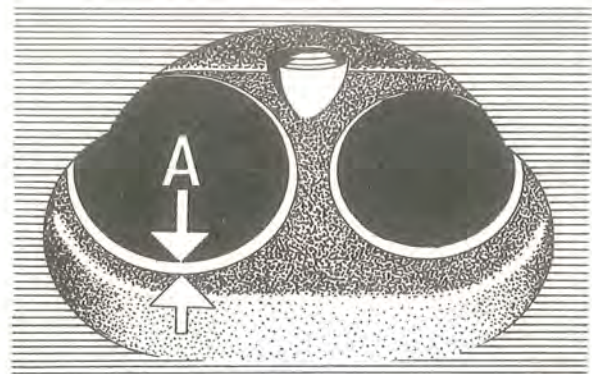

Fig. 2-20. Valve seat width $A=2$ mm (.08")
2. Grind the valve seats. Use an electrically driven grinder or a hand milling cutter. A pilot spindle must be carefully fitted before work is started and any worn guides must be replaced with new ones. The seat should be ground until a good sealing surface is obtained. The angle is 45° and the width of the sealing surface is 2 mm (.08"), see "A" Fig. 2-20. If the sealing surface is too wide after grinding, it can be reduced by using a 70° grinding stone from the inside and a 20° grinding stone from the outside.